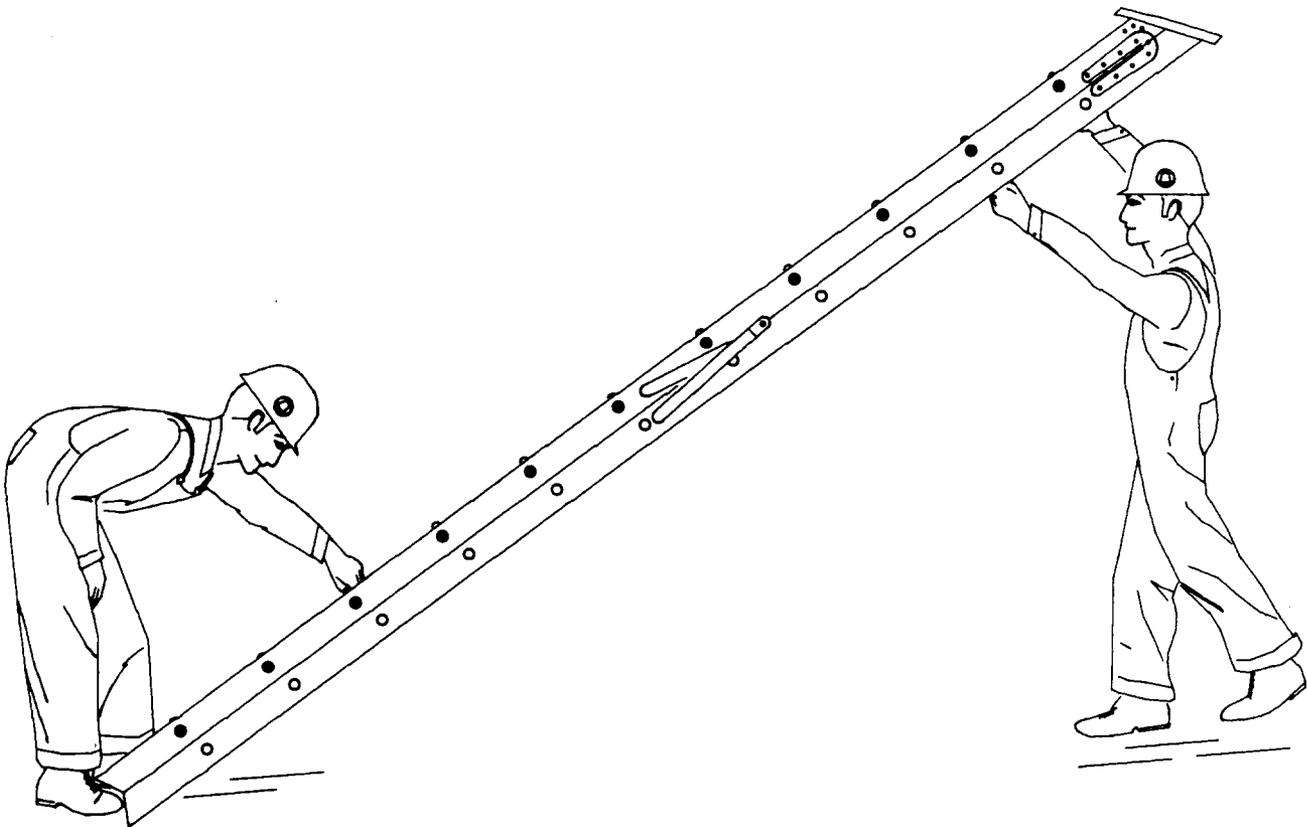

Fig. 5—Raising a Stepladder Over 8 Feet in Length
4.17 In raising long stepladders, the ladder is first laid on the floor with the step section up and the feet at approximately the location where it is desired to have it stand. With the foot of the ladder securely braced by one of the workmen in the manner shown in Fig. 5, it is raised to a vertical position by another workman. After raising the ladder to the vertical position, the workman at the rung section then pulls this section open and locks the spreaders down.